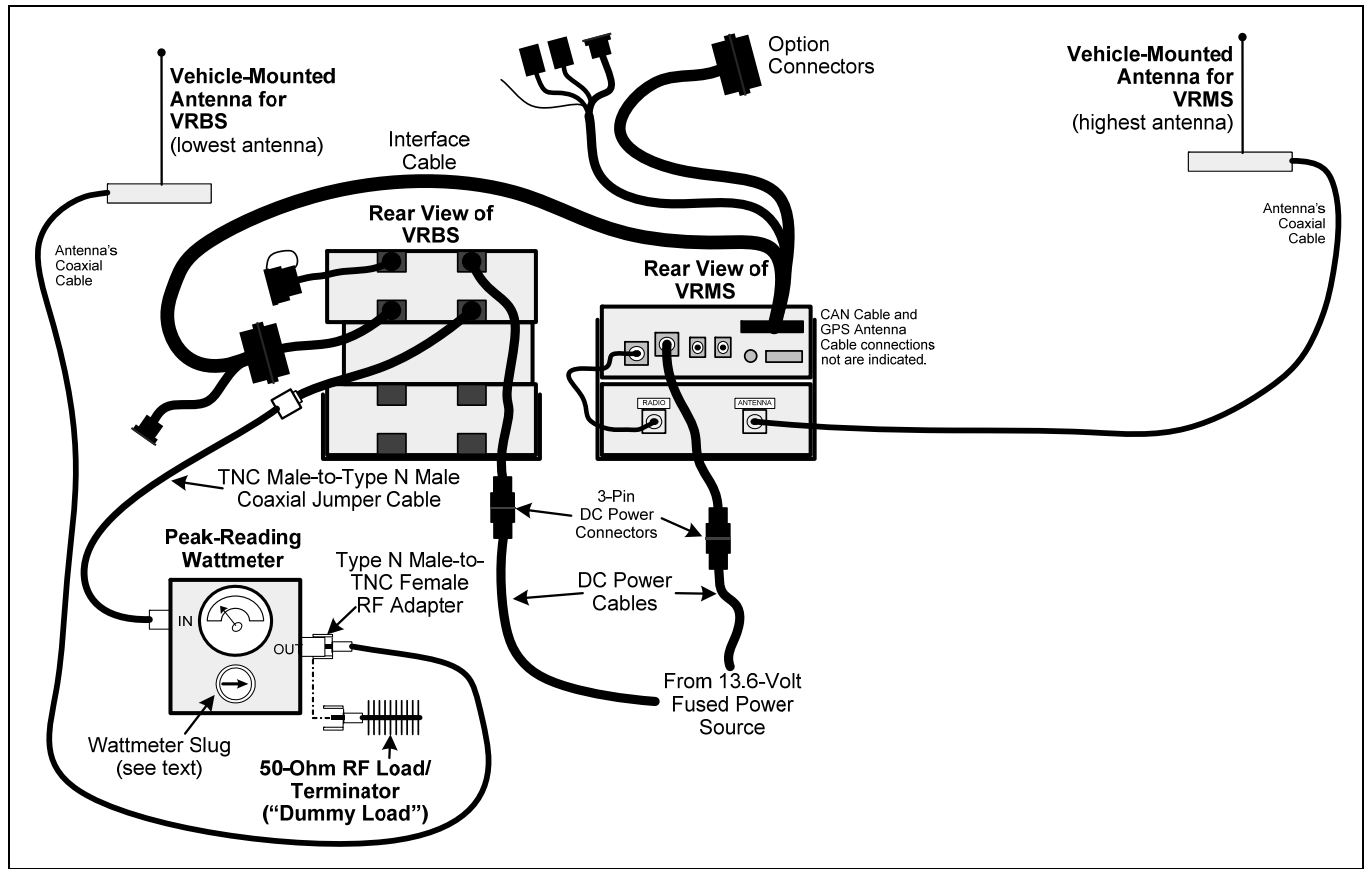

Figure 16-2: Wattmeter Connections for VRBS7010 Antenna Tests
2. Using the Type N male to TNC male coaxial jumper cable, connect the antenna connector at the rear of the VRBS7010 to the wattmeter’s input connector. See Figure 16-2.
3. Connect the cable from the vehicle-mounted VRBS7010 antenna (cable labeled "VRBS7010 Antenna") to the wattmeter's output connector. See Figure 16-2.